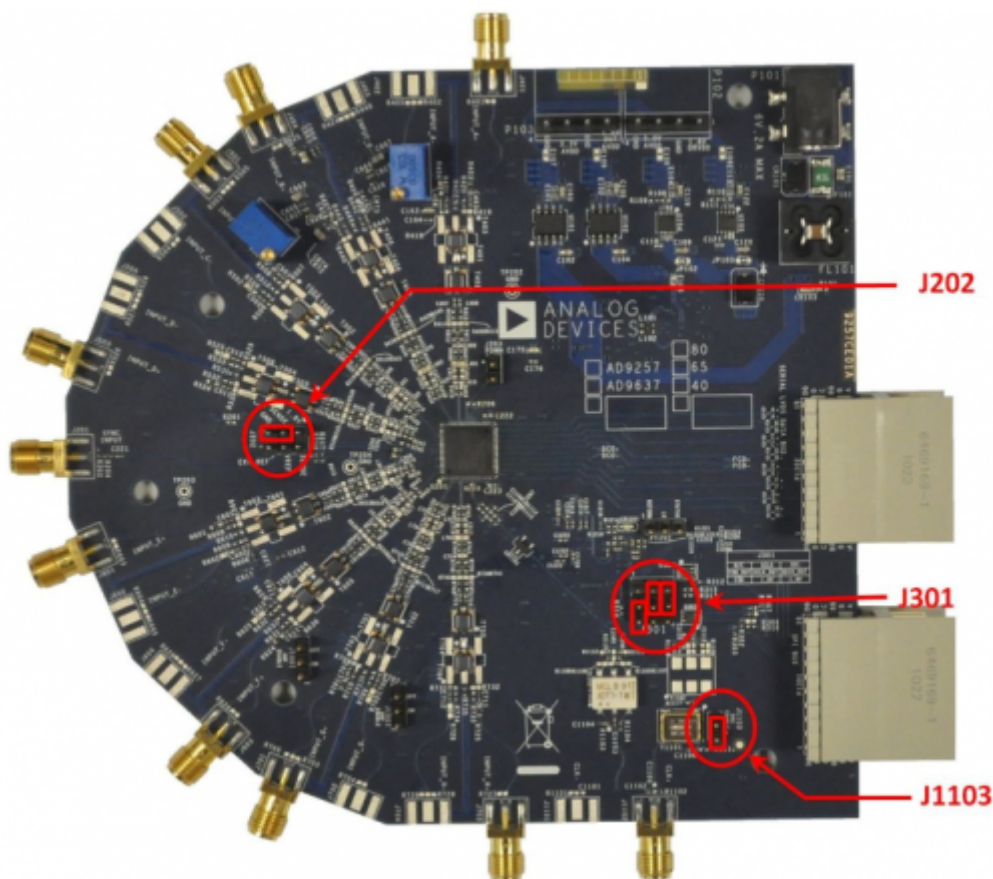

Figure 2. Default Jumper Connections for AD9257-65EBZ/AD9637-80EBZ Board
5. On the ADC evaluation board, confirm that the jumpers are installed as shown in Figure 2.
Set the jumper settings/link options on the evaluation board for the required operating modes before powering on the board. The functions of the jumpers are described in Table 1. Figure 2 shows the default jumper settings.